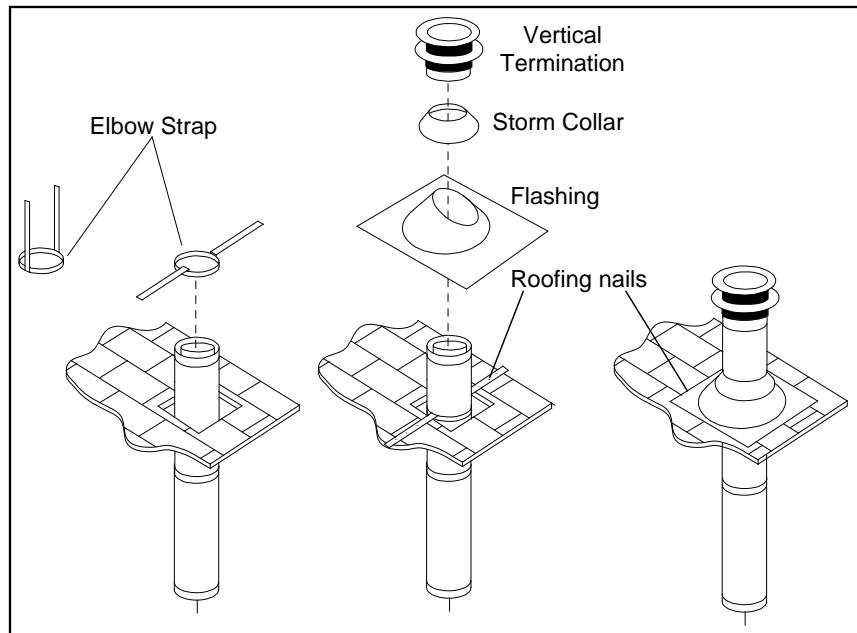

Figure 63: Vertical Vent Termination
Step 6. Once the pipe sections have been joined, and run up through the hole in the roof, slip an elbow strap over the exposed sections, bend the support straps outwards, and push the elbow strap down to the roof level, as shown in Figure 63. Tighten the clamp around the pipe section. Use a level to make sure the pipe is truly vertical. With roofing nails, secure the support straps to the roof. Seal the nail holes heads with non-hardening mastic. Trim the excess length of the support straps that extend out beyond the edge of the flashing.